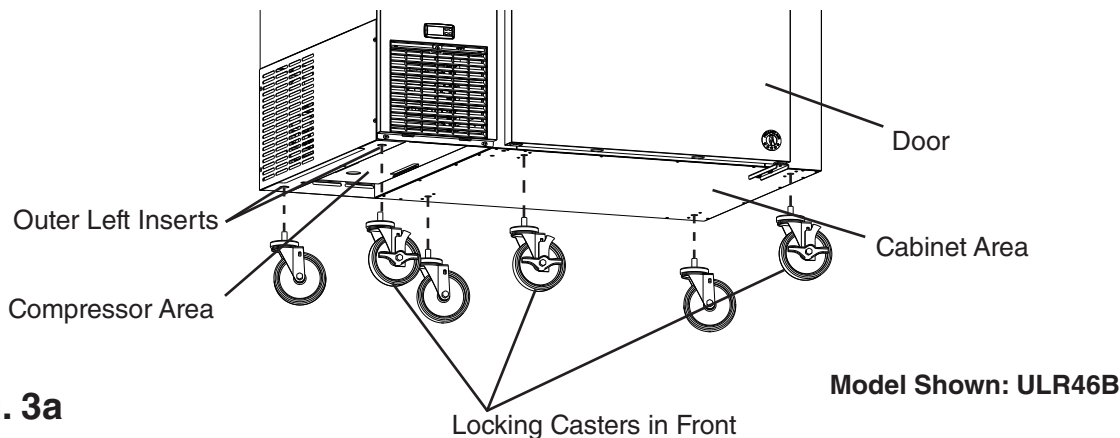

Fig. 3a
3) Attach the casters to the bottom of the appliance. Locking casters should be attached to the front of the appliance. See Fig. 3a, 3b, or 3c. **NOTICE! Do not place blocks under the refrigeration area or doors/drawers of the appliance. Do not lay the appliance down.**
- a) **XLX46B(-D2):** Attach all 6 casters. See Fig. 3a. **WARNING! On XLX46B(-D2) models, all 6 casters must be installed. Otherwise, appliance may tip.** **NOTICE! Ensure casters are completely threaded into the appliance and tight.**